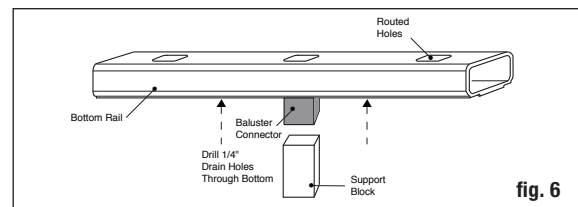

fig. 6
Step 7 Find the center of the underside of the bottom rail and attach the baluster connector included with the support block using the screw provided. Check building code requirements for the maximum spacing between deck surface and bottom of rail (sweep); we recommend 3" but it can be less if desired. If necessary, trim the support block to the determined height (fig. 6). In order to not span more than the max allowable, the bottom rail must be supported every 3' maximum. **Drill two 1/4" drain holes through the bottom of the rail to prevent trapping water. Center drain holes between two baluster locations as baluster can block the pathway and stop water from properly draining.**